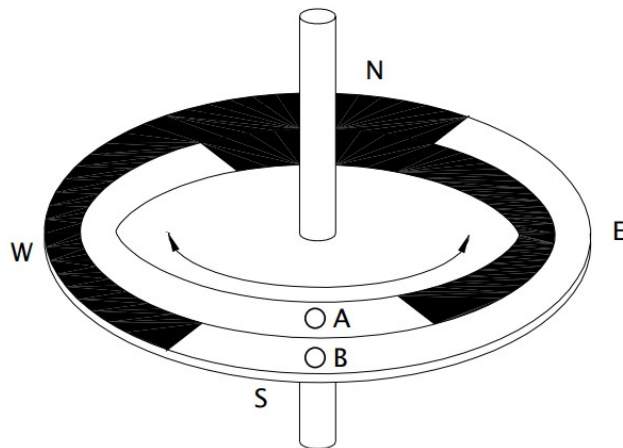

FIG. Q5b
- b) A student project involves the detection and display of wind direction; namely north, east, south or west. It is suggested that a disc, having black and white markings as shown in Fig. Q5b, be connected to a weather vane and that two reflected opto-switches, A and B, detect the position the disc is turned to. Each sensor outputs a logic 1 when light is reflected and logic 0 otherwise. Four LEDs are to be used to indicate the wind direction.